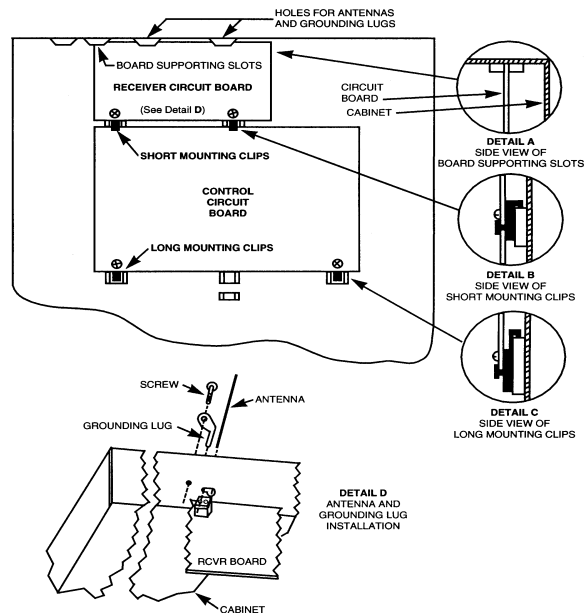

Figure 3. Mounting The PC Board And RF Receiver Together In The Cabinet
1. Hang two short (black) mounting clips (provided with receiver) on the raised cabinet tabs, as shown in Detail B in Figure 3.
2. Insert the top of the receiver board (removed from its own case as described in its instructions) into the slots at the top of the cabinet, as shown in Detail A in Figure 3. Make sure that the board rests on the correct row of tabs, as shown.
3. Swing the base of the board into the mounting clips and secure it to the cabinet with the accompanying screws (see Detail B in Fig. 3).